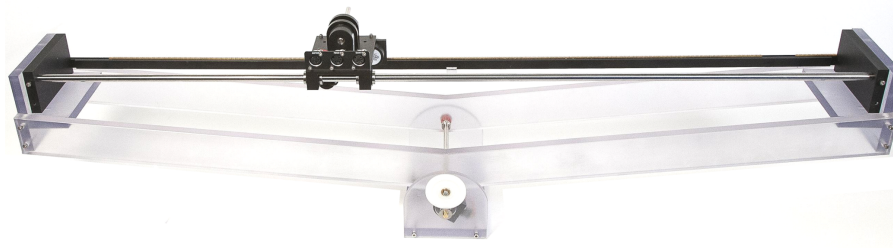

Figure 4.2: SEEPEN pendulum cart (front)
2. Place the "pendulum" cart and rack on top of the SEESAW-E module. Make sure to locate the rack in such a way that the IP02 cart pinion are on the **opposite** side as the SEESAW-E gears, as shown in Figure 4.2.